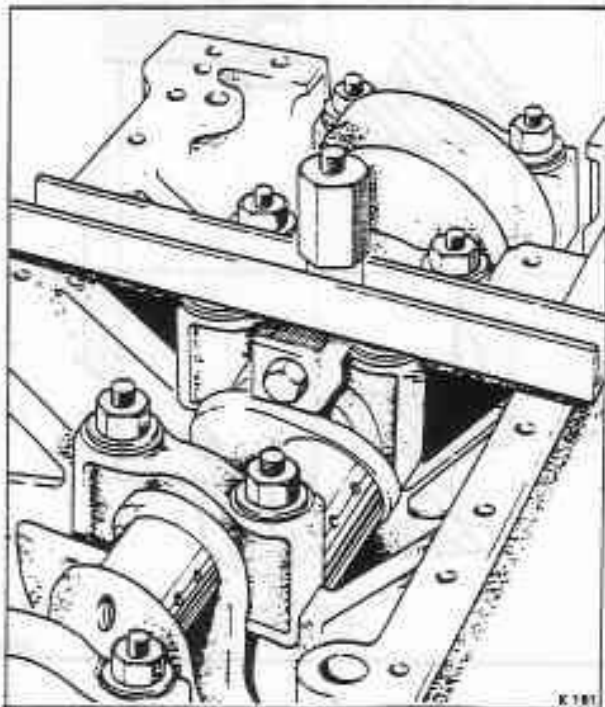

Fig. E5-3 Removing the main bearing caps
25. Unscrew the main bearing cap nuts and withdraw the caps using the extractor RH 7208 and attachment RH 7498 as shown in figure E5-3.